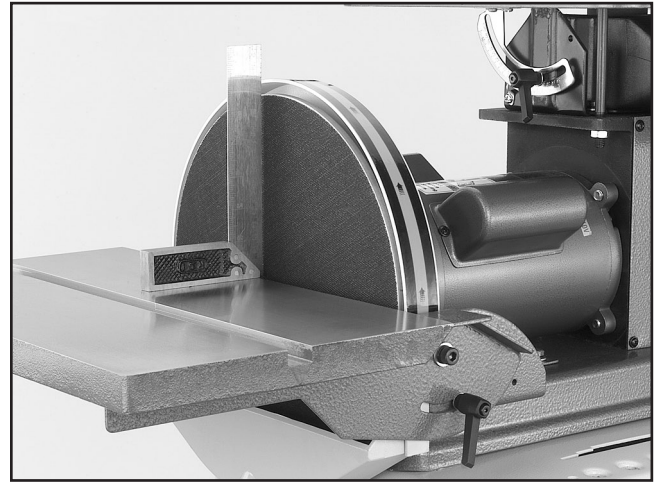

Figure 12. Squaring the disc sanding table.
4. Install the new sanding disc as shown in **Figure 12**.